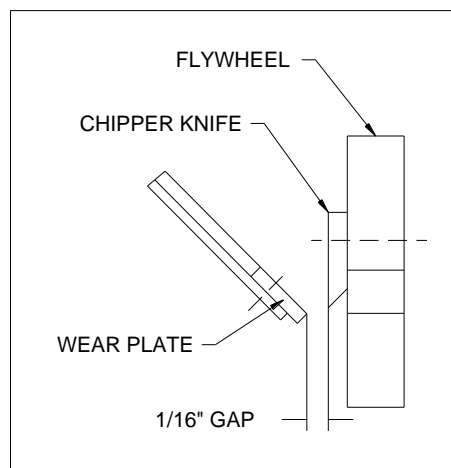

Figure 1
5. Care must be exercised when sharpening the knife to maintain the correct bevel and a straight edge. Refer to sharpening directions. When you install a knife, the clearance between the knife and wear plate must be checked and set. This clearance or gap should be set to 1/16" (see figure 1).